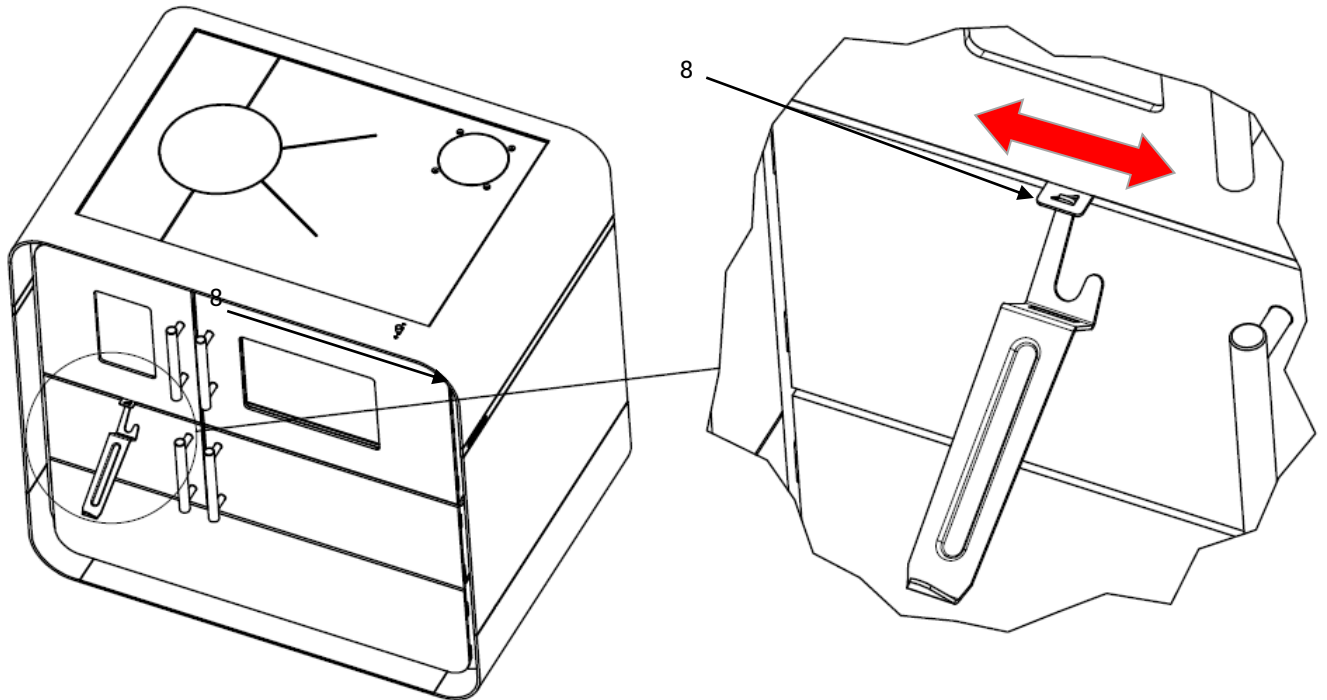

Figure 7
We make air control with a special key over the slide shutter handle as shown in Figure 7 item 8.
Primary combustion air, and thus the heating capacity of the stove, is determined through the primary air opening. That air is controlled on the ashtray support through the slide shutter for the primary combustion air (Figure 7, item 8).
The slide shutter handle on the ashtray support (Figure 7, item 8), shows the direction of the opening and closing of the slide shutter. For igniting, the slide shutter handle should be opened to the maximum.
- Set the primary air regulator to the position for maximum primary air intake (Figure 7, position 8).
- Set the primary air regulator to the appropriate position for nominal heating performance (Figure 7, position 8; see Table 6).